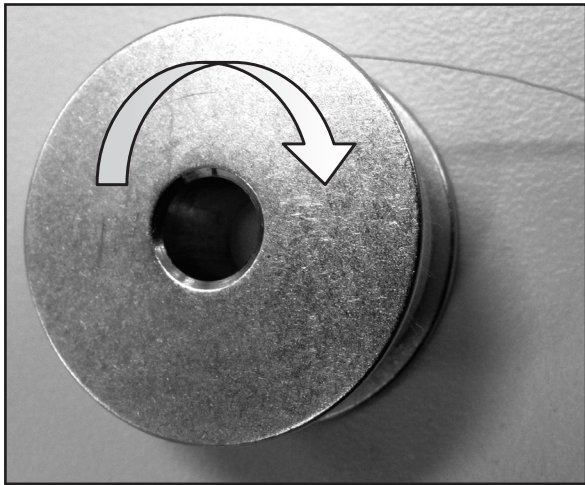

Figure 11
1. Place the bobbin in the bobbin case so that the thread pulls off clockwise when viewing the open side of case (Figure 11).